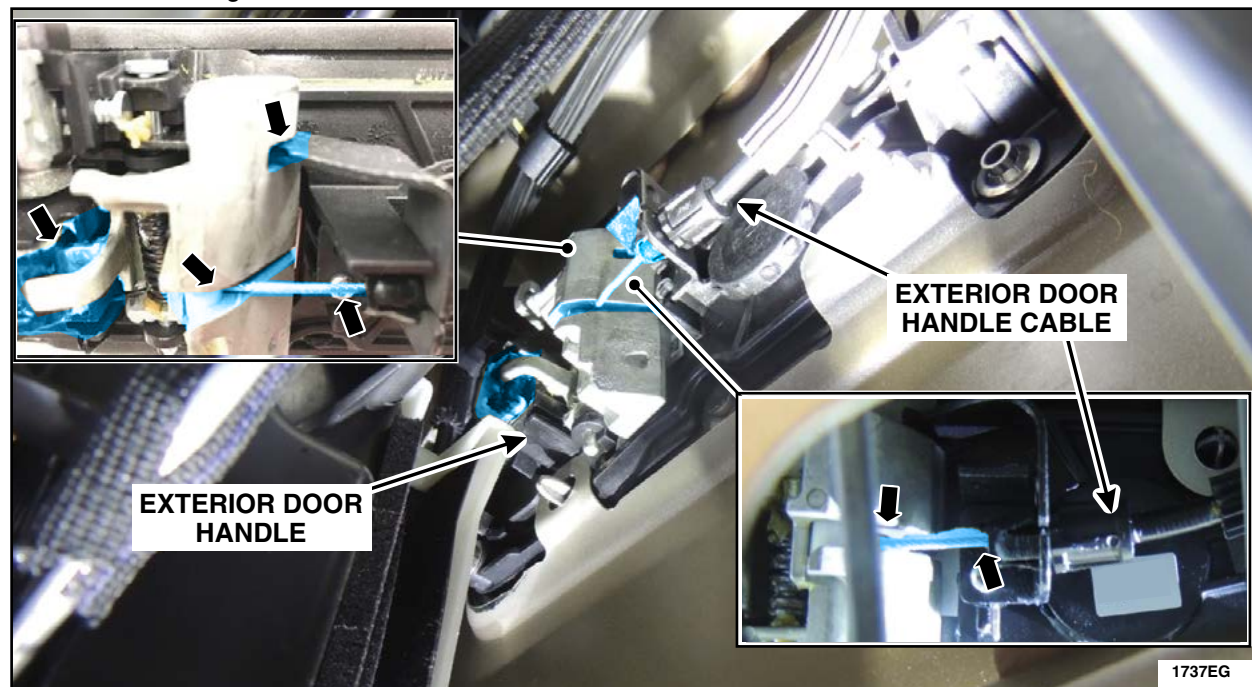

FIGURE 28a
13. Through the large door sheet metal opening, use a brush to apply a light film of Motorcraft® *XG-16 low temperature* grease to the exterior door handle cable end, and to the three additional highlighted areas. See Figures 28a and 28b.